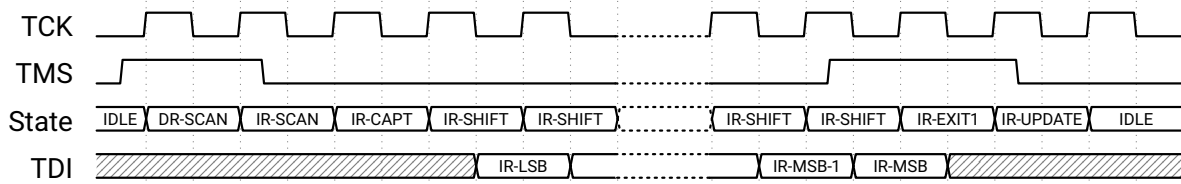

Figure 3.12: JTAG instruction shift NEW COMMAND
The typical procedure is to first load the instruction and then write or read the data associated with this instruction. The JTAG host controller must drive the signals TCK, TMS and TDI in the according way as illustrated shown in Figures 3.12 and 3.13. The instruction register (IR) size is 6 bits. Instructions have to be shifted into the JTAG TAP with least significant bit (LSB) first.